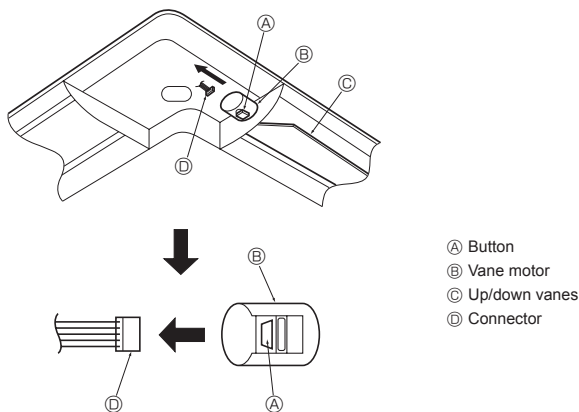

Fig. 7-9
7.4. Locking the up/down airflow direction (Fig. 7-9)